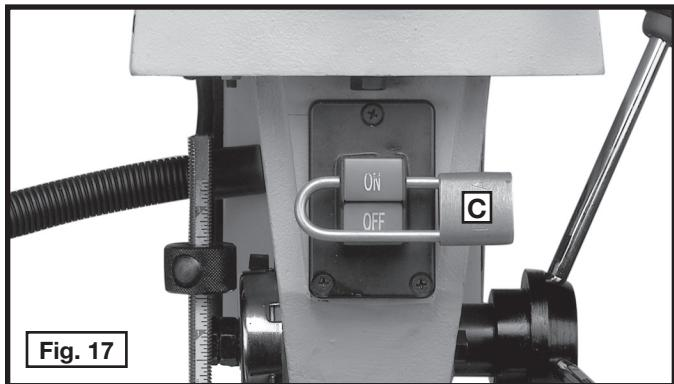

Fig. 17
IMPORTANT: When the machine is not in use, the switch should be locked in the "OFF" position to prevent unauthorized use, using a padlock (C) Fig. 17 with a 3/16" diameter shackle.